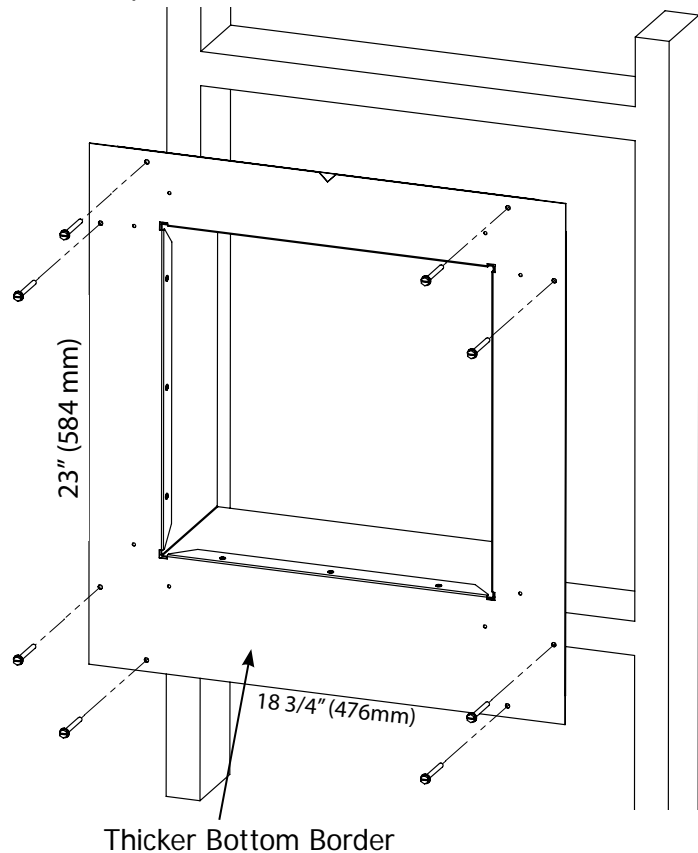

Figure 8: Exterior Thimble Installation
3. Fasten the exterior thimble, using standard wood screws to the framed opening. Making note to install the thimble with the thicker border at the bottom. Refer to Figure 8. Wall cladding can now be applied on top of the thimble while leaving only the opening for the power vent terminal installation.